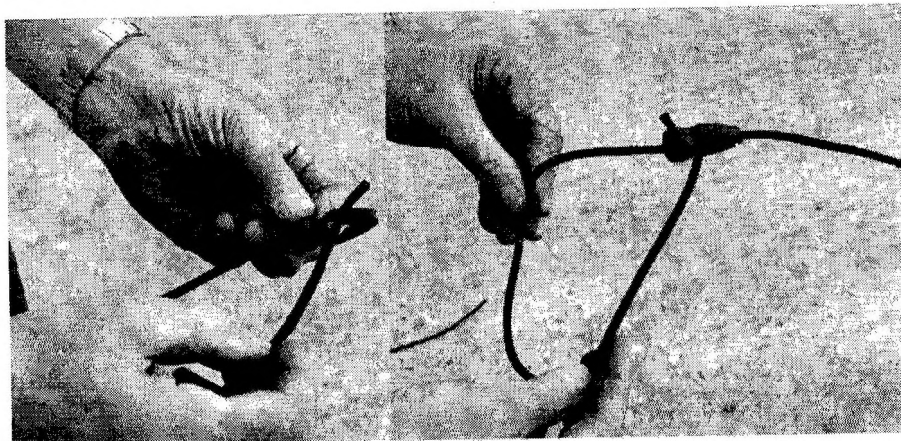
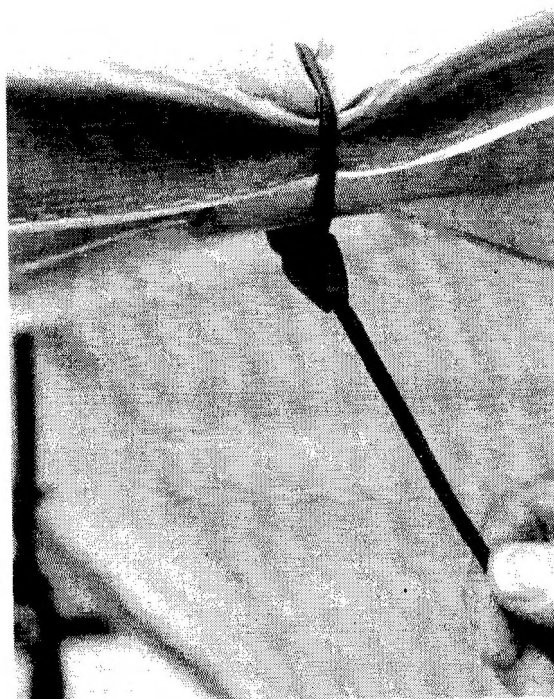

Figure 61: Tensioner loose and locked
Figure 62: Tensioner Fitted
66. The tensioners are fitted by passing the loose end through the centre of the clip, pulling the tail to tension, then still under tension laying the tail into the jaws and end opening of the clip before releasing the tension to secure; the remaining tail should continue round and be reinserted through the centre of the clip to double secure. To release pull the tail to tension' lift the loose cord out of the clip, and release. Tensioner tails should pass through the insulation from the inside and be secured around the tent frame. Fig 61 and Fig 62.